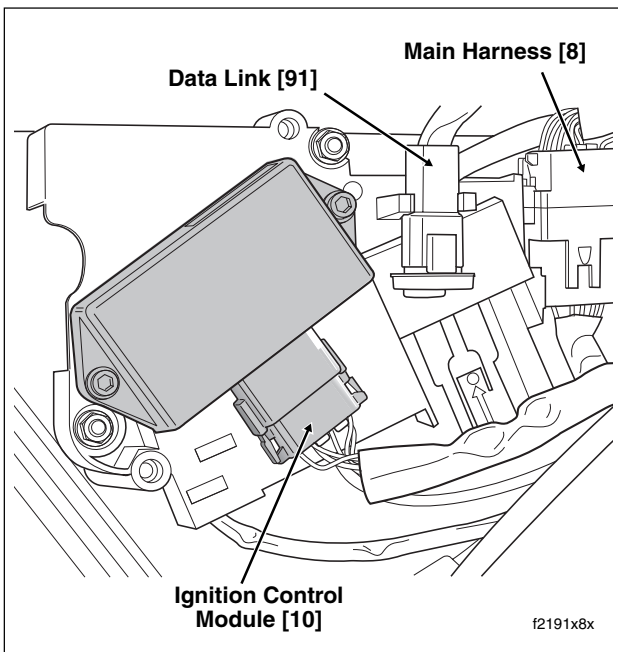

Figure 8-181. Electrical Bracket (Under Right Side Cover)
8. Remove ignition control module connector [10]. Depress external latches and use a rocking motion to separate pin and socket halves. See Figure 8-181.
10. Mate pin and socket halves of main harness connector [8]. Install connector into slot of electrical bracket. See Figure 8-181.